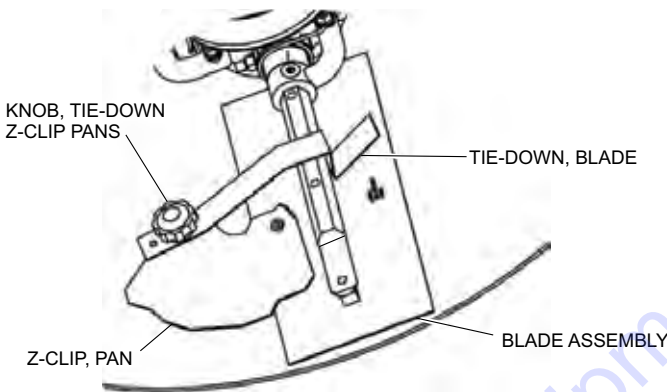

Figure 61. Z-Clip Finisher Pan Installation
Refer to Figure 61 when installing pans onto finisher blades.
3. Attach the blade tie-downs to the far side of the Z-Clip brackets with tie-down knobs as shown in Figure 61.